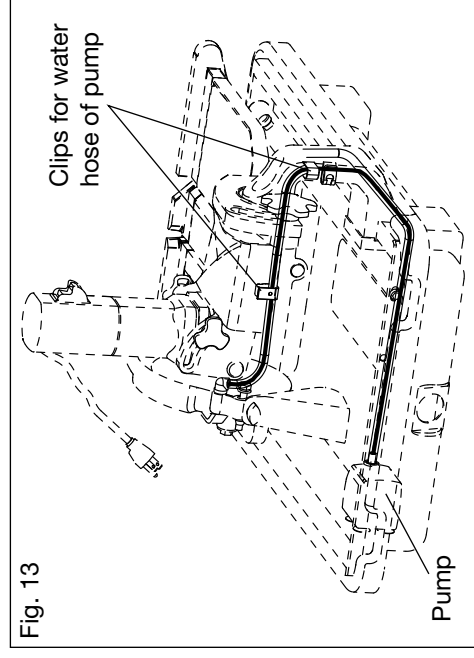

Fig. 13
1. Locate the water hose attached to the motor/upper arm assembly. Route the water hose from the back of the blade guard (where it is permanently affixed) to the water pump, as illustrated by the thick black line in Fig. 13